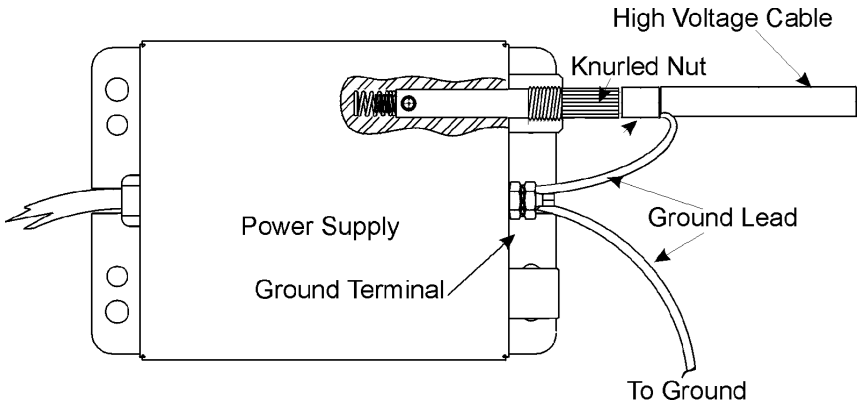

Figure 12. Installation of High Voltage Cable Assembly to "D" Power Supplies
5. Connect a ground wire to the ground terminal of the power supply. (See **Figure 12** for ground terminal location)
3. For “D” connect ground wire to ground terminal of power supply. For TrueAC, connect shield wire to shield terminal of power supply (see **Figures 12 and 13**)